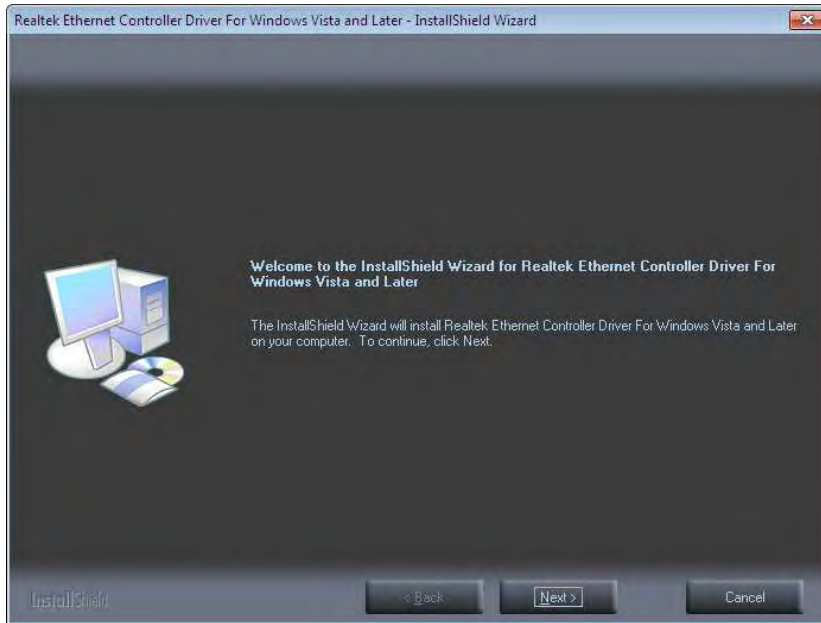

Figure 4-4: Realtek LAN InstallShield Wizard
Step 2: Double click the setup file in the folder. The InstallShield Wizard screen appears (Figure 4-4).
Step 2: Double click the setup file in the folder. The **InstallShield Wizard** screen appears (**Figure 4-4**).